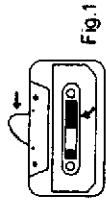
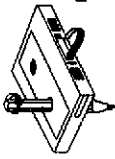

Fig. 1
Fig. 2
- Check that there are no loose layers of tape visible through the cassette centre window (see Fig. 1). Take up any loose layers, using a pencil or hexagonal barrelled ballpoint pen, before inserting the cassette into the machine (see Fig. 2).
- If the cassette feels "tight" while performing operation shown in Fig. 2, the tape may be jamming due to "ridges" formed in the winding of the tape (visible through the centre window). These may be removed, in most cases, by fast winding of the cassette from one end to the other and back.